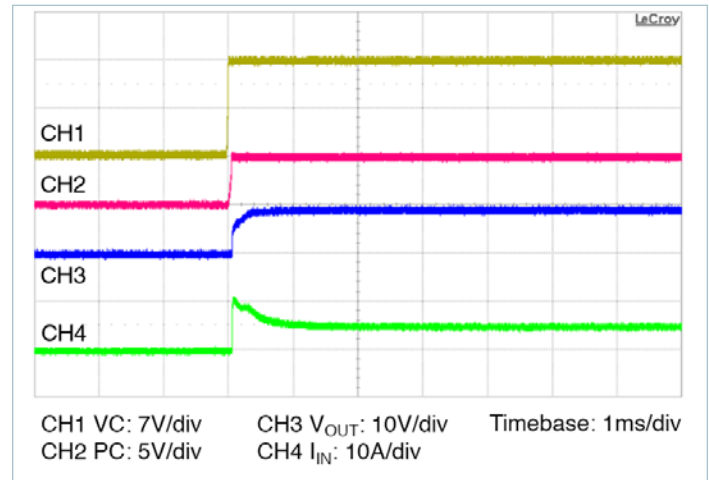

Figure 14 — Start up from application of V_C ; V_{IN} pre-applied $C_{OUT} = 1600\mu\text{F}$
- **Stand-alone operation (VC applied after V_{IN}):** In this case the VTM output will begin to rise upon the application of the VC voltage (See Figure 14). The Adaptive Soft-Start Circuit may vary the output rate of rise in order to limit the inrush current to its maximum level. When starting into high capacitance or a short, the output current will be limited for a maximum of 1200 μ s. After this period, the Adaptive Soft-Start Circuit will time out and the VTM module may shut down. No restart will be attempted until VC is re-applied or PC is toggled. The maximum output capacitance is limited to 1600 μ F in this mode of operation to ensure a successful start.